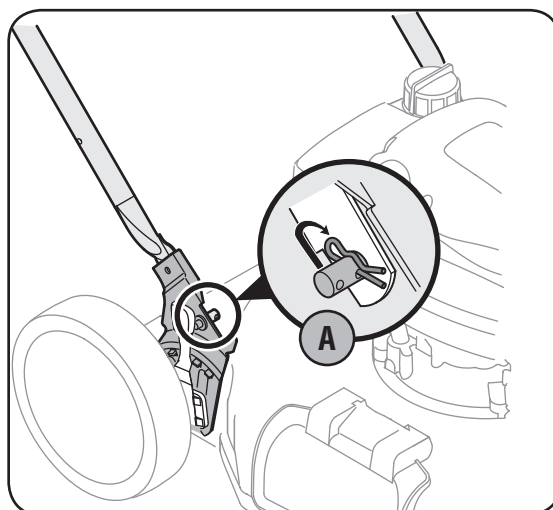

Figure 2
2. Locate hairpin clip in one hole on the weld pin on each side of lower handle. Figure 2.